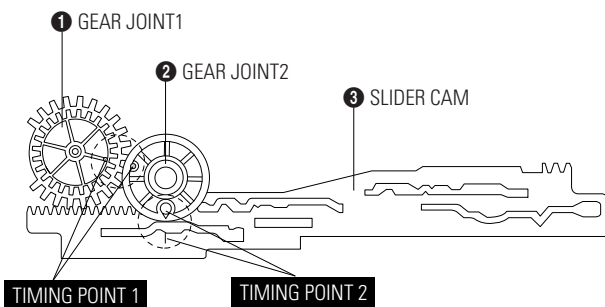

Fig. 3-12 Gear Joint 1,2 Assembly
- 1) Be sure to align dot mark of Gear Joint 1 ❶ with dot mark of Gear Joint 2 ❷ as shown Fig 3-12. (Refer to Timing point1)
- 2) Confirm the Timing Point 2 of the Gear Joint 2 ❷ and Slider Cam ❸.